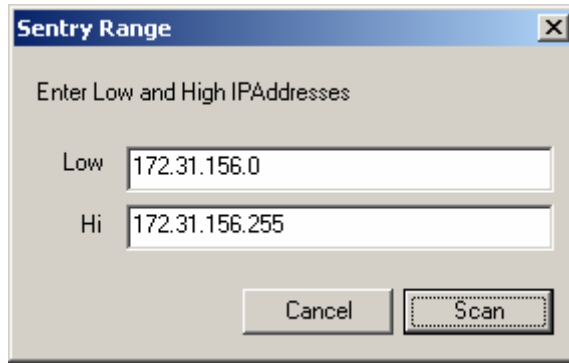

FIGURE 7. IP Address Dialog.
- To change the defined range of IP addresses to scan on startup, enter the lower and higher IP addresses into the panel shown in Figure 7. Use the 255.25.255.255 format. The first 3 parts of the IP addresses must be the same.